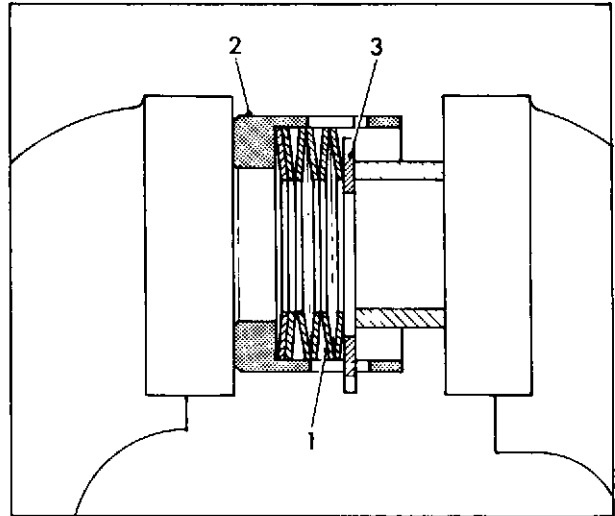

Fig. 22 Assembling recoil unit
1. Lightly smear the Belleville washers (1) fig. 22 with Aero Shell 16 grease and assemble them into the recoil housing (2) as illustrated.
2. Insert one side of lock washer (3) in the slot in the recoil housing and compress the Belleville washers, as shown in fig. 22, until the lock washer can be engaged in the other slot. Clamp the armature shaft vertically in the vice with the threaded end downwards.